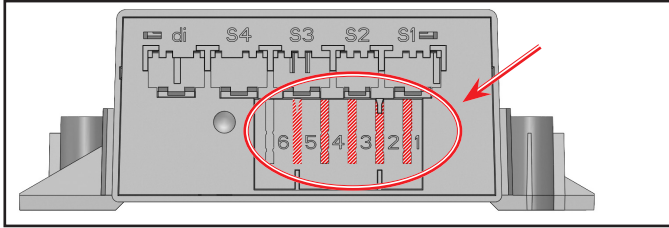

Fig. 5. Danfoss ERC terminals 1-5.
14. Connect the replacement temperature control to the appliance per the table below. See fig. 5. Reference the recorded voltage wire colors in step 4.